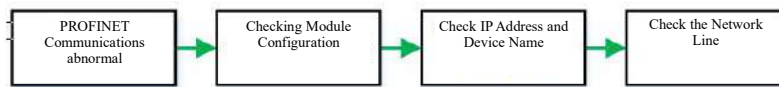

Figure 6-2-2 Troubleshooting process
- Figure 6-2-2 shows the troubleshooting process when communication is abnormal.